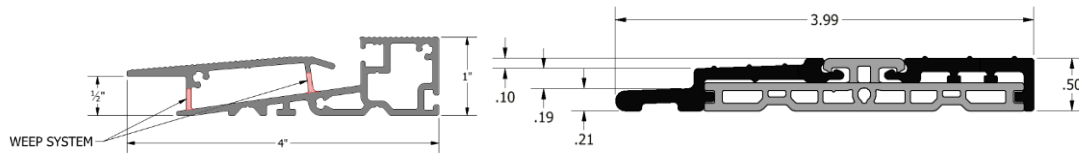

Figure 2: HP SILL (left) vs LP Sill (right)
- D) The door's sill must be fully supported along the sill's weight bearing surface. The weight bearing surface is defined as the entire span from the inside edge of frame to the outside edge of frame on the LP sill, and a minimum of 2 1/4" from the inside edge of frame to the outside edge of frame on the HP sill. (See figure 2)